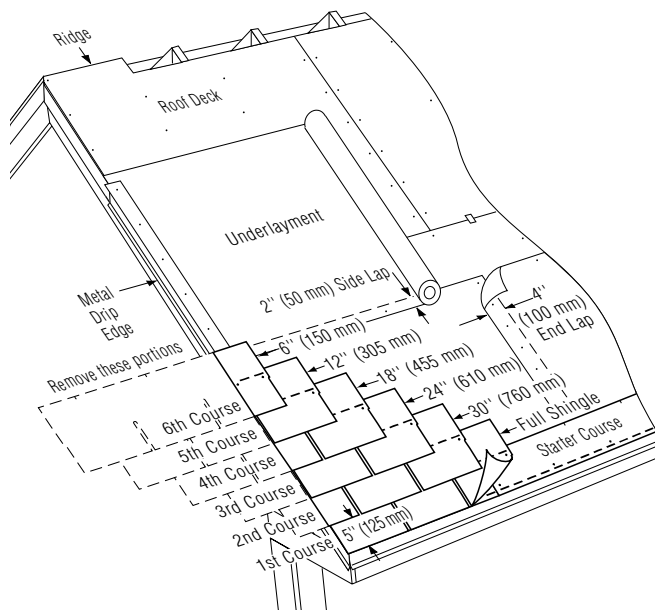

Figure 10-8: Applying the first 6 courses on a standard slope.
**1ST COURSE:** Apply a full shingle at the lower left corner of the roof. Make tabs lie flush with the edges of the starter course. In this way, sealant on the starter strip will adhere to the first-course tabs and help keep them from lifting in high winds (Figure 10-8).
1. Cut 6" off the left side of a shingle and install this 30" piece over and above the first-course shingle, in line with the left edge of the starter course. Leave the 5" tabs of the first-course shingle exposed (Figure 10-8).
2. Cut 12" off the first shingle of the third course, 18" off the first shingle of the fourth course, 24" off the first shingle on the fifth course, and 30" off the first shingle of the sixth course. Apply each with its left edge in line with the previous course (Figure 10-8).